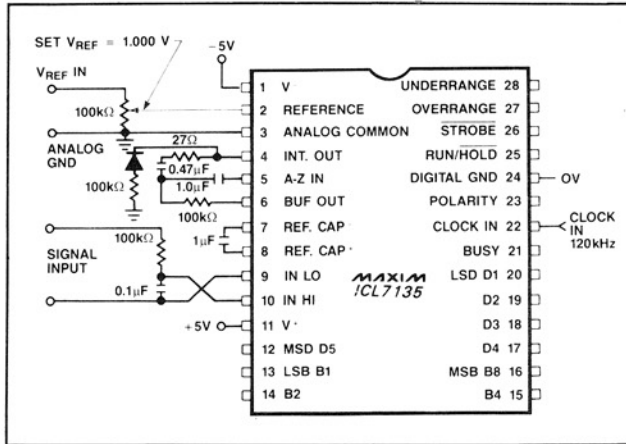

Figure 1. ICL7135 Test Circuit
- Note 1:** Tested in 4½ digit (20,000 count) circuit shown in Fig. 1, clock frequency 120kHz.
Note 1: Tested in 4½ digit (20,000 count) circuit shown in Fig. 1, clock frequency 120kHz.
The ICL7135 is tested for rollover using the circuit of Figure 1, with the 100kΩ resistor and diode in the circuit. The diode is noncritical, and is typically a low cost 1N4148. The resistor value is dependent on many factors including integrator swing, clock frequency, and the amount of rollover error due to "charge suckout" on the reference capacitor. 100kΩ is the optimum value for most circuits and is the value used in testing the ICL7135.